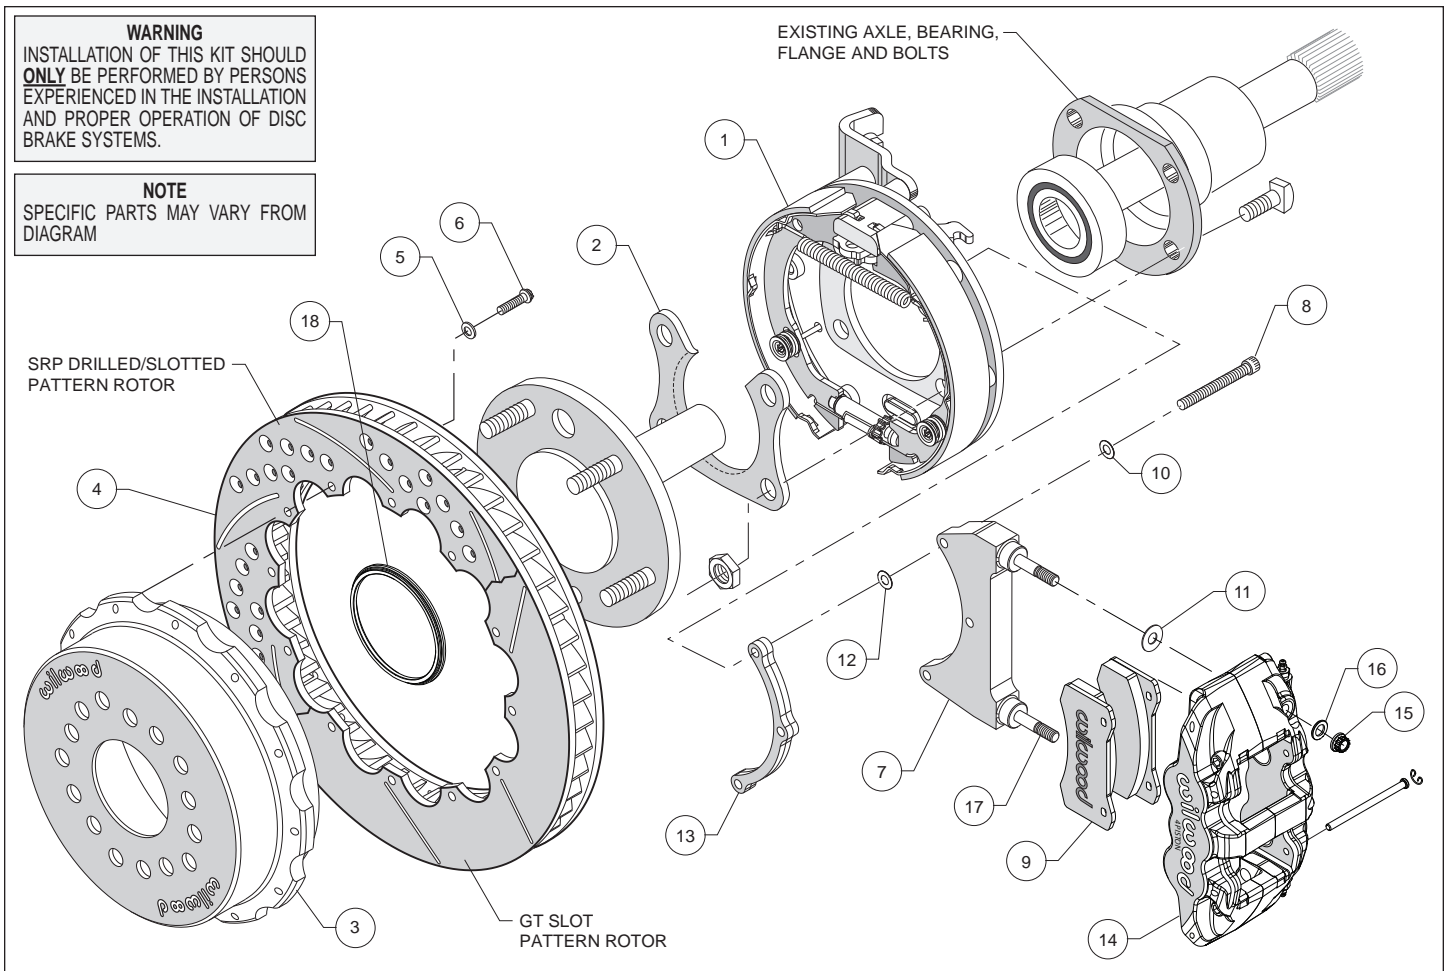

Figure 1. Typical Installation Configuration
- Orient the bracket assembly (1) as shown in Figure 1, and slide it onto the axle flange. Ensure that the bracket assembly backing plate fits flush against the housing flange. Insert the axle shaft into the axle housing.
- Install the bearing retainer (2) with the opening pointing upward and the lip facing inward (toward the bearing), as shown in Figures 1 and 4. Secure using the Original Equipment Manufacturer (OEM) bolts and nuts, Figure 1. Apply red *Loctite*® 271 to the OEM bolt threads and torque to OEM specifications.
- Slide the rotor registration adapter (18) onto the axle register on the axle flange with the smaller O.D. facing toward the rotor/hat (3). Align the correct hole pattern in the hat with the stud pattern on the axle flange. **NOTE:** Some OEM and aftermarket axles come with stud sizes larger than 0.50" diameter. Verify stud size and have a qualified machine shop drill the hats to the correct size, if necessary. Slide the hat/rotor assembly (3 and 4) over the wheel studs covering the bracket kit assembly (1) and against the axle flange face. Check to be sure the hat seats squarely against the hub. Install three lug nuts (finger tighten) to keep the rotor/hat assembly in place while continuing with the installation.
- **NOTE:** Please reference the caution statement at the beginning of the assembly instructions. The caliper mounting bracket assembly (7) should be installed first with clean, dry threads on the mounting bolts (8). Install the bracket from the rear side of the bracket kit assembly (1) by sliding bolt (8) through lock washer (9), flat washers (10 and 11) bracket (7), shim washer (12) and finally through the spacer (13), see Figure 1. **NOTE:** End of bolt should not exceed inside face of insert. The bracket must tighten squarely against the back side of the bracket kit assembly (1). Inspect for interference from casting irregularities, machining ridges, burrs, etc. Use one thin shim (12) between the bracket (7) and spacer (13) during initial trial fitting.
- Lubricate caliper mounting studs and nuts with lightweight oil. Install one shim (11) over each pre-installed stud (17) on the radial mount bracket (7). Slide the caliper (14) in place over the studs and rotor, then install the washer (16) and lock nut (15) to hold the caliper in place. The caliper bleed screws should be pointing up. Snug the lock nuts (15) and check that the rotor (4) is centered in the caliper (14). Add or subtract .015" shims (12) as necessary between the caliper mounting bracket (7) and the spacer (13) to center the caliper (14).
- Remove the two pad retaining pins from the caliper (14) by carefully popping out the pin retaining clips and sliding out the pins. Insert the brake pads (9) into the caliper from the bottom, Figure 1. With the friction material facing the rotor, secure the brake pads in place with the pad retaining pins and clips. Reinstall the caliper onto the caliper mounting bracket and temporarily tighten the lock nuts. Check that the top of the brake pad is flush with the outside diameter of the rotor. If not, adjust by adding or subtracting shims (11) between the caliper and the bracket.
- Adjust the parking brake shoes outward (using a drum shoe adjustment tool available at your local auto parts store) while spinning the hat (3) until a slight drag is felt against the hat/drum. Remove the lug nuts that were holding the hat/rotor in place. Install the wheel and lug nuts. Check to see that the wheel rotates freely without interference.
- Once all clearances have been checked, remove the wheel, caliper, hat/rotor from the bracket kit assembly (1). Secure the caliper mounting bracket (7) to the bracket kit assembly (1) using red *Loctite*[®] 271. Torque bolts (8) to 180 in-lb. Reinstall the hat/rotor assembly and again use lug nuts to hold it in place. Reinstall the caliper, torque the caliper nuts (15) to 47 ft-lb.
- **NOTE:** Clevis and cable kits which attach to the parking brake assembly are not included in the Wilwood parking brake kit. Wilwood offers a generic style parking brake cable kit, P/N 330-9371 for this application which can be ordered separately from your local Wilwood dealer or by calling Wilwood customer service at (805) 388-1188.